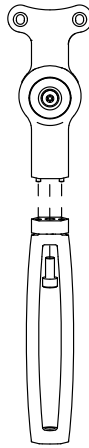

Figure 4.
4. Align the replacement leg with the base using the aligning pins. See **Figure 4**.
5. Thread the new fastener provided (M6 x 14) through the top of the leg and into the base using a 5 mm hex wrench as shown in **Figure 4**. Torque fastener to **6.0 N-m (53 in-lbf)**.